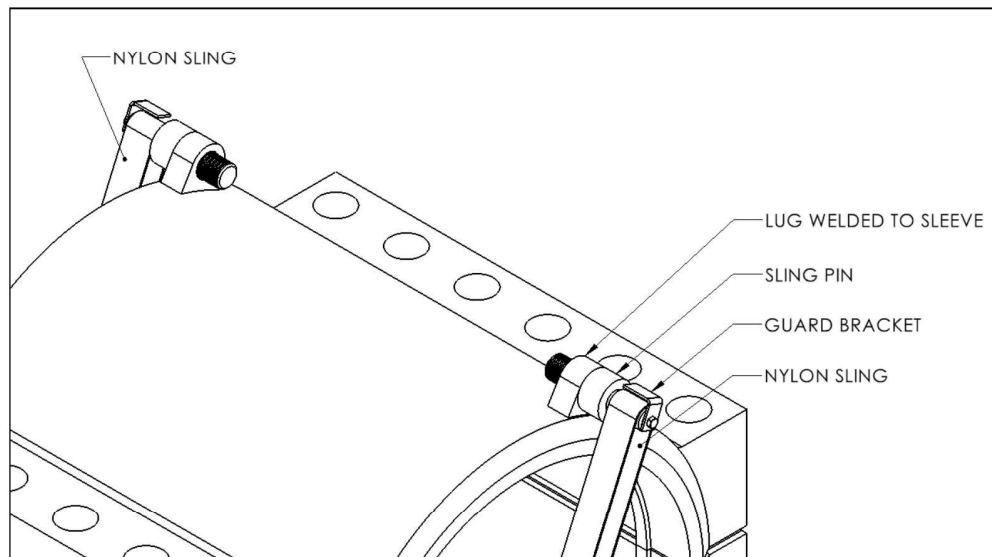

Figure 4
6. Place the nylon slings around the sling pins as shown in Figures 4 & 5 . Install the “L” shaped guard brackets.